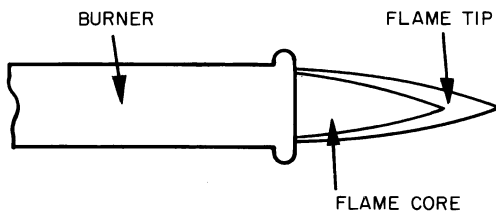

Fig. 7 — Proper Flame Appearance
5. Observe unit heating operation, and watch the burner flame with the access panel removed to see if it is bright blue. If you observe a suspected malfunction, or that the burner flames are not bright blue, call your dealer. See Fig. 7. Some yellow flame may be present due to the panel being removed.